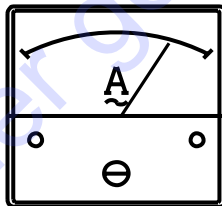

Figure 41. Ammeter (Load)
16. Observe the generator's ammeter (Figure 41) and verify it reads the anticipated amount of current with respect to the load. The ammeter will only display a current reading if a load is in use.